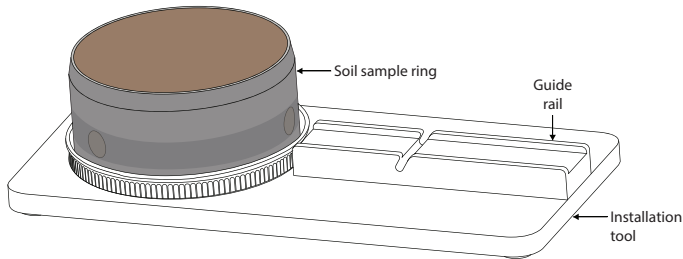

Figure 17 Soil sample ring on installation tool
3. Place the saturated soil sample in the installation tool (Figure 17).
4. Align one of the soil sample ring drill holes with the installation tool guide rail (Figure 17).